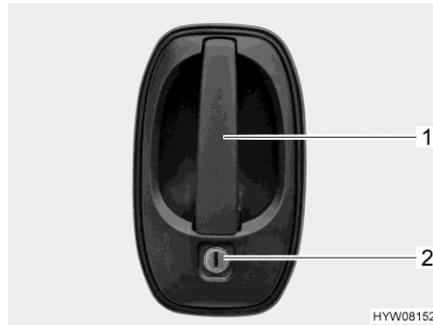

Fig. 38 Door lock (driver's door / living area door, outside)
- Insert the key into locking cylinder (Fig. 38,2) and turn until the door lock is unlatched.
- Pull on the door handle (Fig. 38,1). The door is open.
- Insert the key into locking cylinder (Fig. 38,2) and turn until the door lock is engaged.